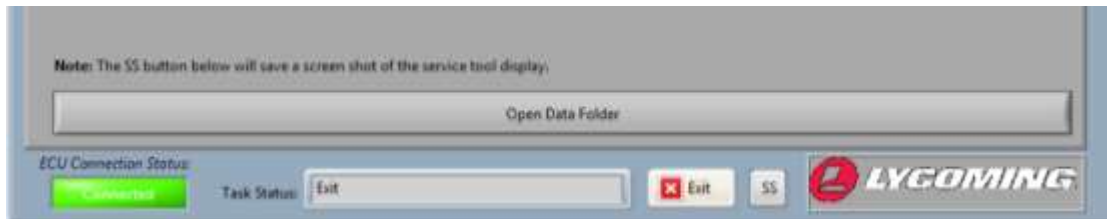

Figure C-34
1. Close the FST program by clicking on the **Exit** button at the bottom of the screen (Figure C-34).